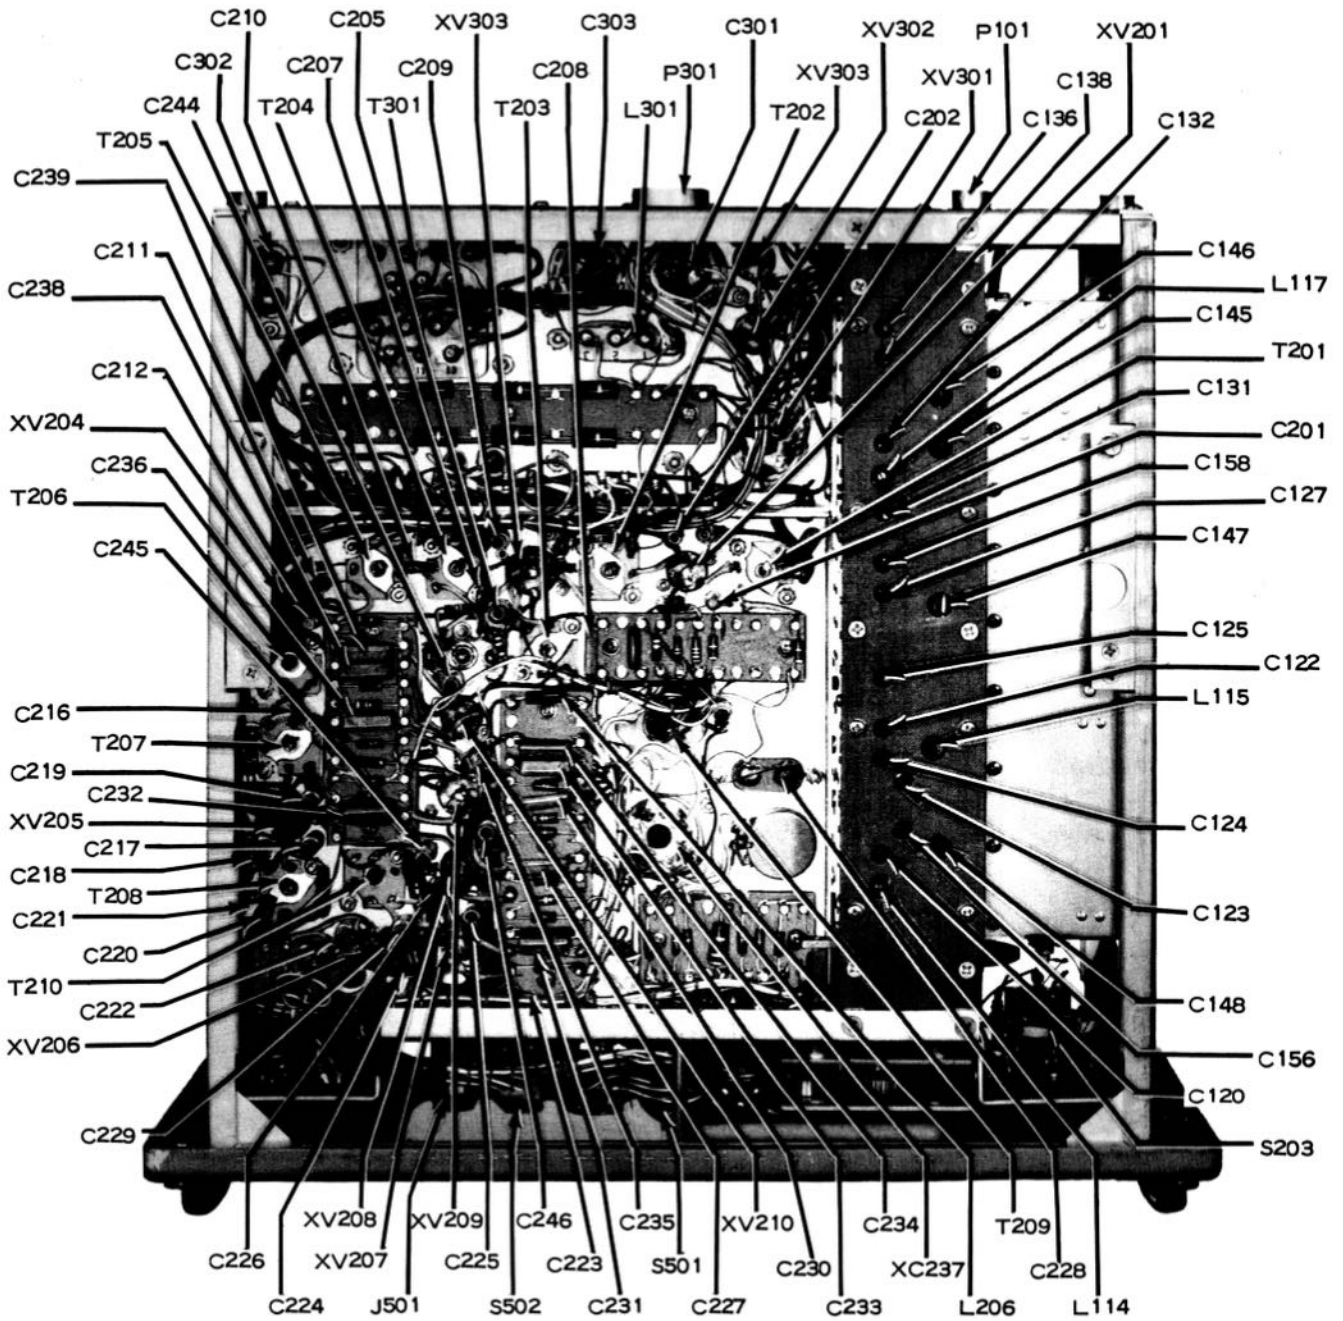

Figure 7-14. Radio Receiver R-482C/URR-35, Bottom View—Identification of All Components Except Resistors and Terminal Boards
(1) Set up, near the receiver, a heterodyne frequency meter such as a Navy Model LM or LR series, which will cover the range of 10-18 megacycles, or the range 20-35 megacycles, and couple it, through a d-c blocking capacitor, to capacitor C123, located on the oscillator side of the preselector; see figure 7-14.
(2) Set the tuning dial of the receiver to 232 megacycles, throw the CRYSTAL-MANUAL switch to
(1) Unsolder the wiring from the terminals of T301; see figure 7-14. Identify each wire in some manner if there is any likelihood that the preformed arrangement of these wires will be disturbed before connections are restored.
(2) Remove the nuts from the four transformer-mounting studs.